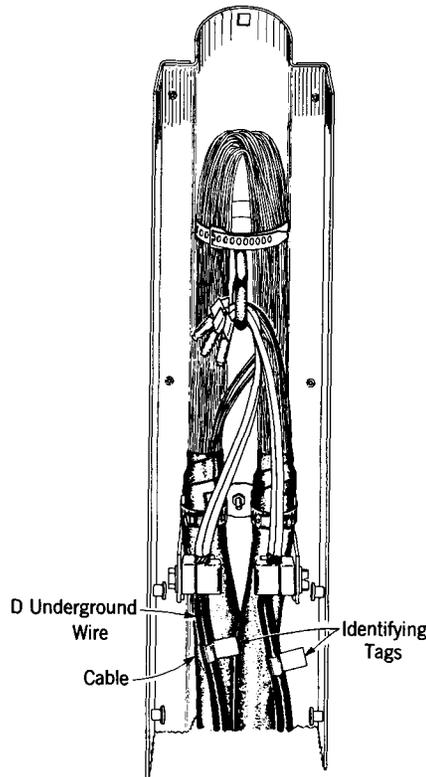

Fig. 7 — D Underground Wire in D Cable Closure
2.16 Skin the insulation from the underground wire for about 1-inch and connect to the cable pair using B Wire Connectors. After the splice is made, the end of the connector and the wire should be wrapped with a short piece of vinyl tape to insulate the bare conductor. A completed installation is shown in Fig. 7.